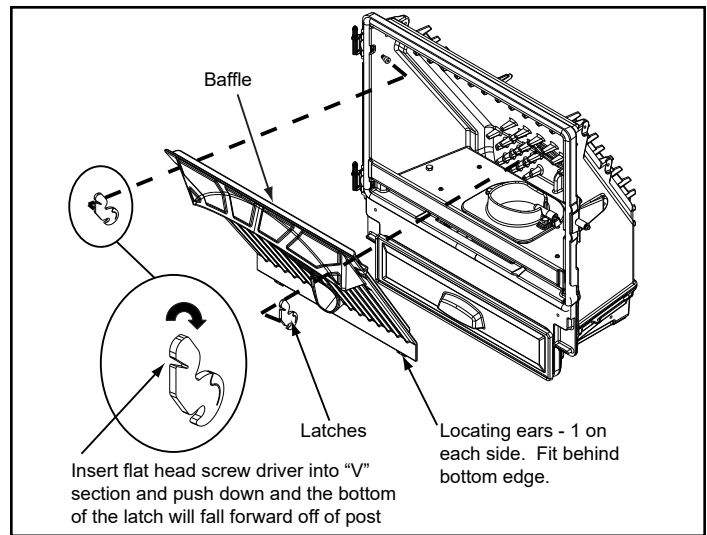

Figure 24.2
4. Remove baffle by placing a flat head screw driver into the slot of the latches located in the upper corners and rotate down. The bottom of the latch will fall forward off of the post. Lift the baffle up and then out toward you (**Figure 24.2**).